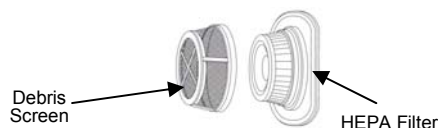

Fig. 3
4. Separate the debris screen from the HEPA filter cartridge by grasping the debris screen with one hand and the filter frame with the other and pull apart. (fig. 3)